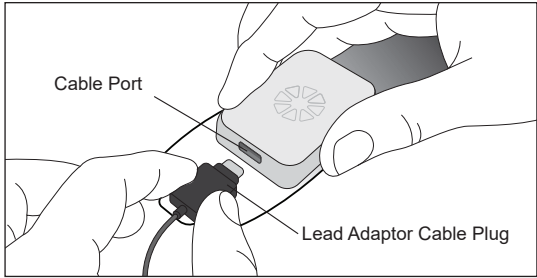

Figure 8-4: Connecting Lead Adaptor Cable to Stimulator.
5. Connect the Lead Adaptor Cable into the Stimulator cable port. **See Figure 8-4.**